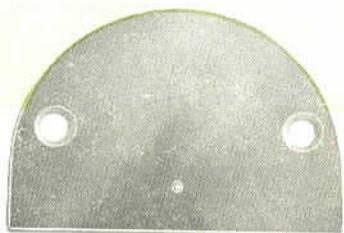

Fig. 22
- 4 Replace normal needle plate with embroidery plate (Fig. 22).